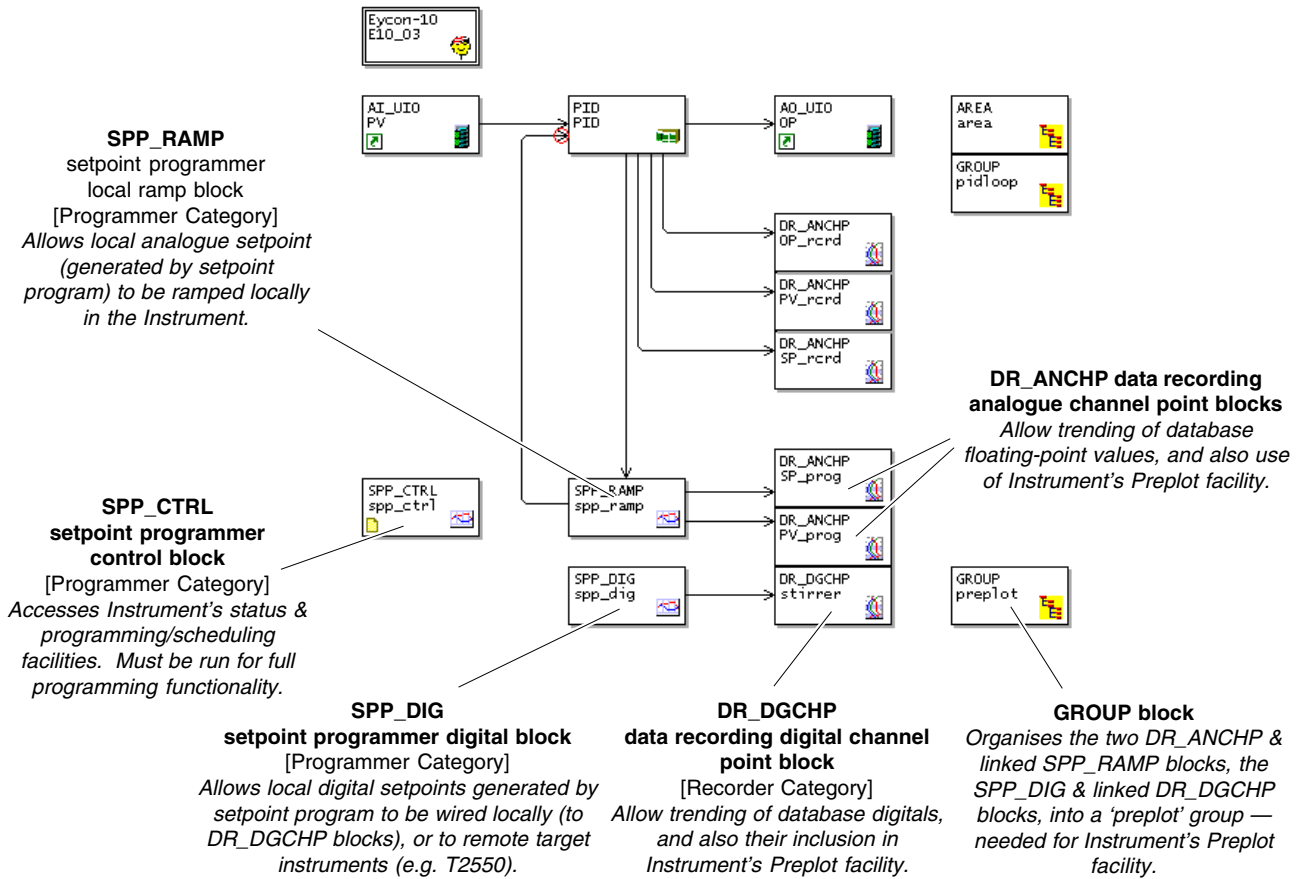

Figure 3-1 PID loop strategy with added Setpoint Programming
Figure 3-1 shows the PID loop strategy created in Chapter 2, but with extra function blocks added, at the bottom of the figure, to allow a setpoint program to be run.
- 1 In the LINTools Engineering Studio, locate the required blocks as shown in Figure 3-1. The quickest way to do this is to open up the existing PID loop strategy as your starting-point — by double-clicking its icon in Explorer view, then simply add the seven extra ‘programming’ blocks.
Note *(Block type) blockname.field.subfield format, referring to Figure 3-1
Table 3-2 lists the fields that should, as a minimum, be edited from their default values. For completeness, all such fields are shown in the table — including those edited in the original PID loop strategy. Note that you must also edit the **Name** fields in all blocks, according to Figure 3-1 if you wish.
- 4 Now single-click the **SP 1 (New)** cell. The Properties dialog changes to a ‘**Setpoint/Holdback**’ dialog. Edit the setpoint **Name** field to ‘**profile1**’, and the **Hardware reference** field to ‘**spp_ramp**’. This is the name of the SPP_RAMP block that transfers the generated setpoint to the strategy (see Figure 3-1).